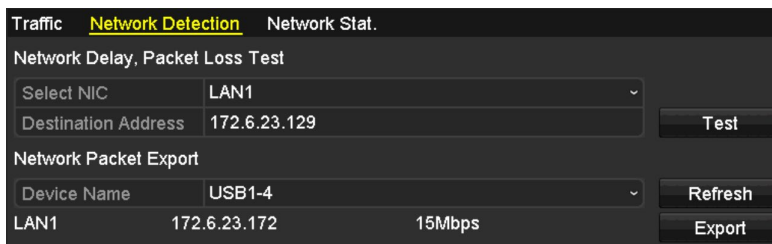

Figure 9-21 Network Detection Interface
- Click the **Network Detection** tab to enter the Network Detection menu, as shown in Figure 9-21.